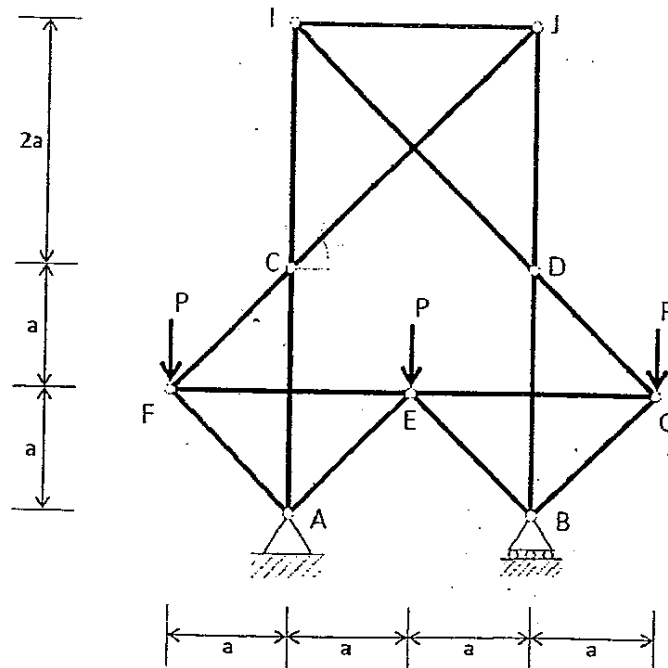

Figure Q1
1. A pin-jointed truss is subjected to three point loads as shown in Figure Q1.